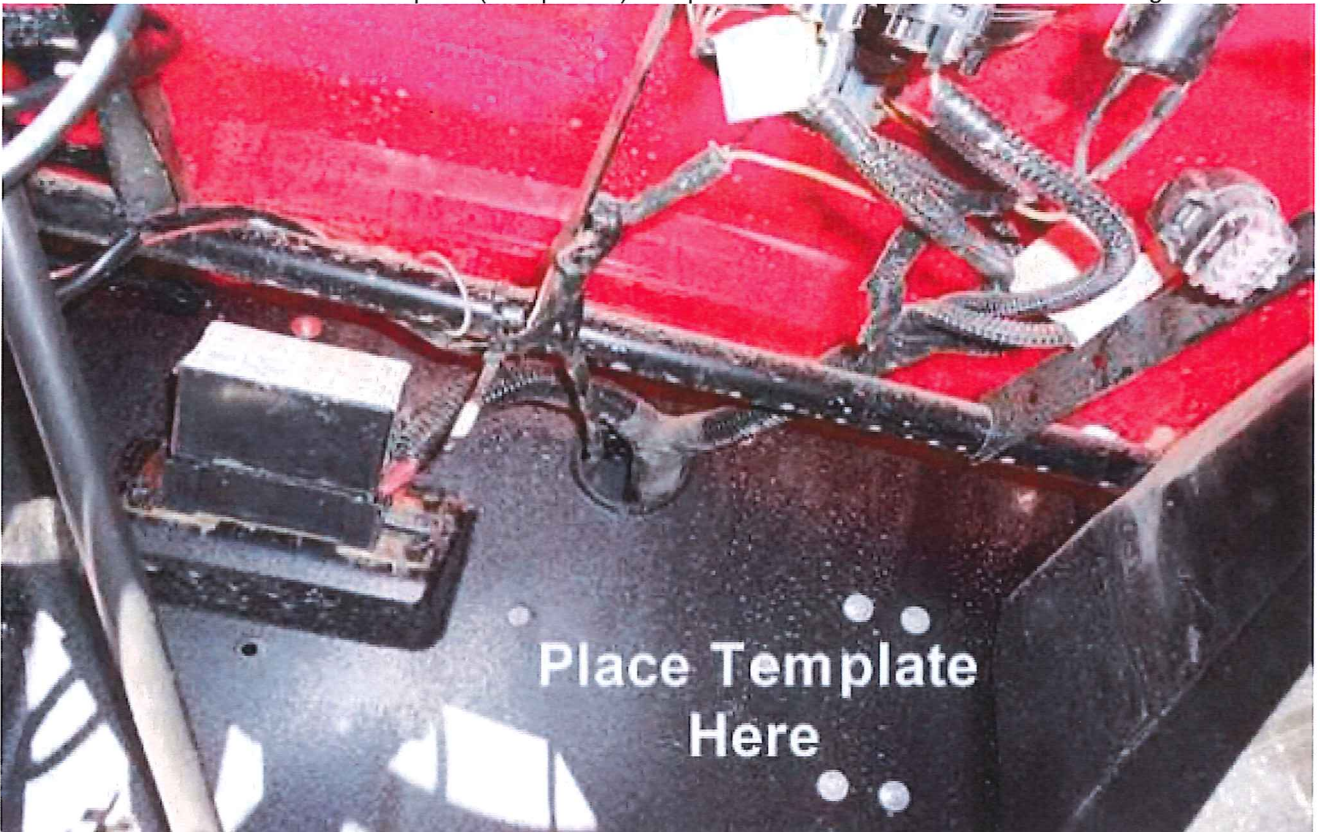

Figure 1
1. Cut out the Dash Heater Hose Template (Template 1) and position it on the firewall as shown in Figure 1.